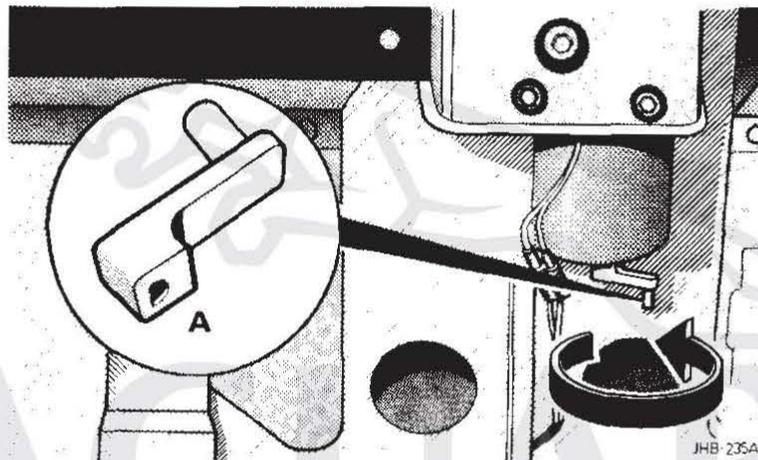

Fig. 1
Where a sunroof motor has failed and the panel is stuck partially open, manual operation can be carried out by attaching a small handle (A Fig. 1), supplied with the tool kit, to a shaft protruding from the base of the sunroof motor.
- To close – rotate handle clockwise (Shown Fig. 1)